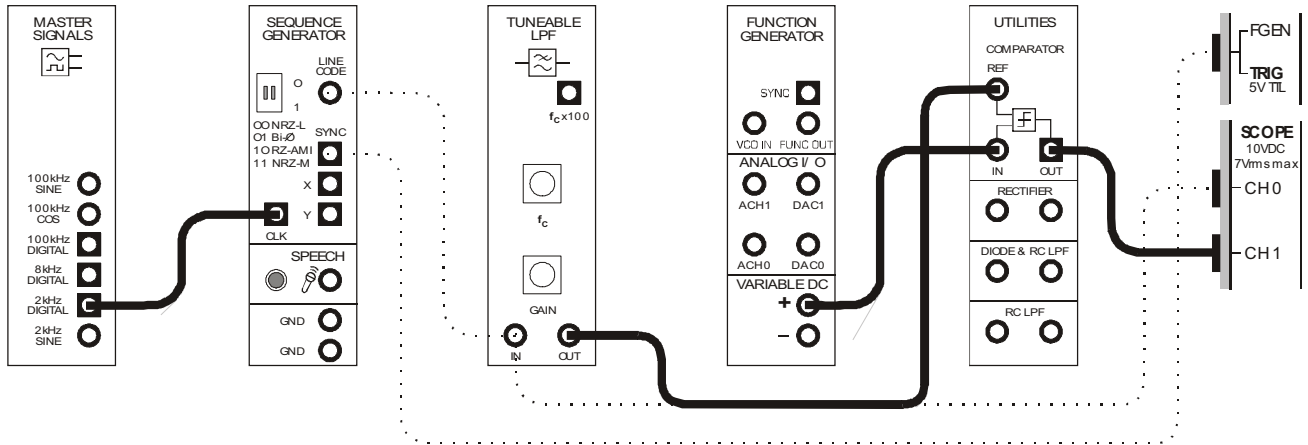

Figure 11
50. Disconnect the patch lead to the function generator's output then modify the set-up as shown in Figure 11 below.